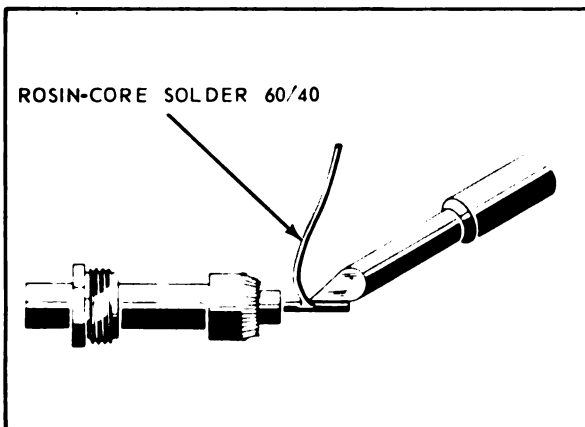
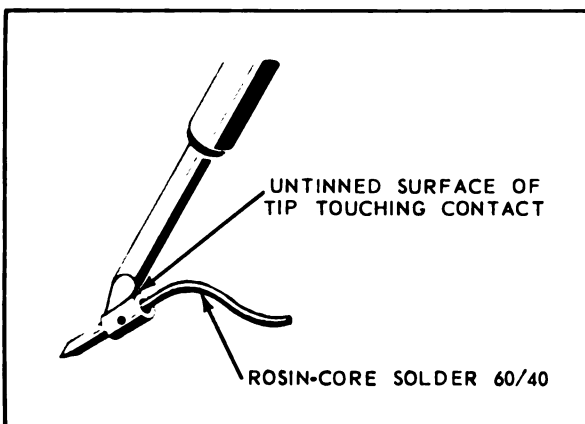

Figure 4-10. Tinning Center Conductor
Figure 4-11. Tinning Inside of Contact
4-22. Tin center conductor with soldering iron as shown in figure 4-10.
4-23. Tin inside of contacts (male or female) with soldering iron as shown in figure 4-11. (Use untinned face of tip to prevent depositing solder on outside of contact.)
i. Tin center conductor as shown in figure 4-10. Tin inside of contact (male or female) as shown in figure 4-11.
g. Tin center conductor as shown in figure 4-10.